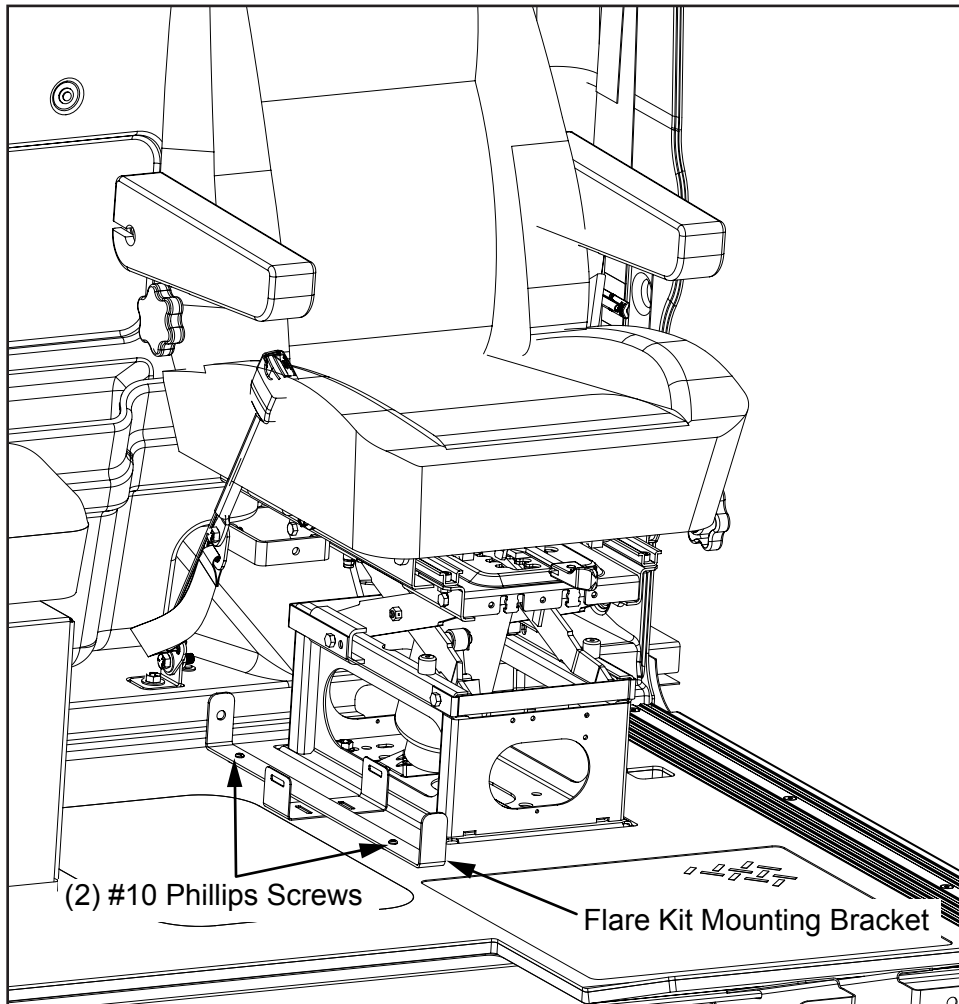

Figure 22
23. Using (2) #10 Phillips screws, reinstall the flare kit mounting bracket (see Figure 22).